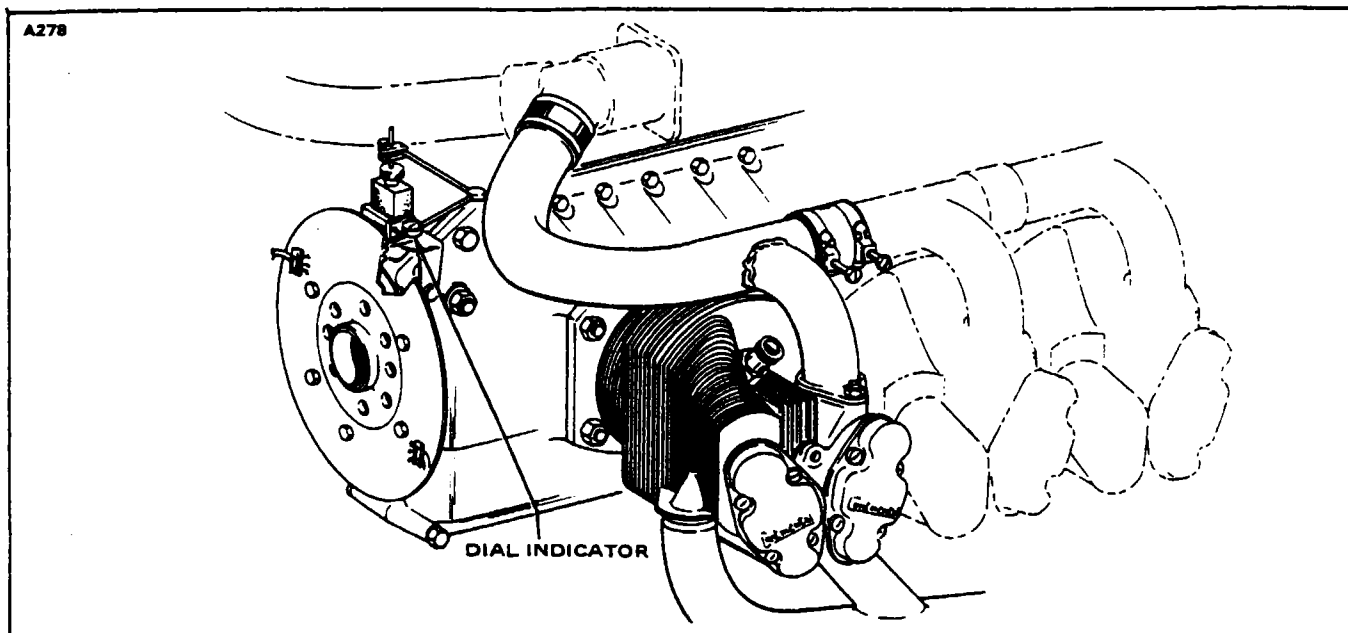

Figure 14-6. Typical Use of Dial Indicator
2. If uneven wear is found or if wobble is noticed, set up dial indicator as shown in Figure 14-6 to check alignment of slip rings to propeller shaft per Paragraph 14-17.
14-17. ALIGNMENT OF SLIP RING ASSEMBLY. Excessive slip ring run-out will result in severe arcing between the slip ring and brushes and cause rapid brush wear. If the run-out is not corrected, rapid deterioration of the slip ring and brush contact surfaces will result and lead to eventual failure of the Deicing System. Check the slip ring run-out with a dial indicator securely attached to the engine with the pointer resting on the slip ring. (Refer to Figure 14-6.) Rotate the propeller slowly noting the run-out indicated on the gauge. The total run-out must not exceed 0.005 inch \pm 0.0025 inch and 0.002 inch in any 4 inch interval of slip ring travel.